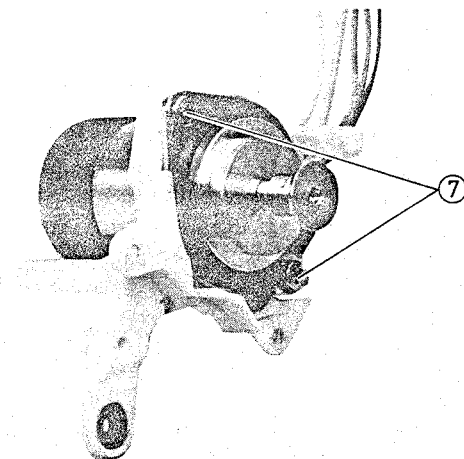

Fig. 2-87 Capstan Motor Removal
7. Remove two (2) screws holding the capstan motor. (See Fig. 2-87)